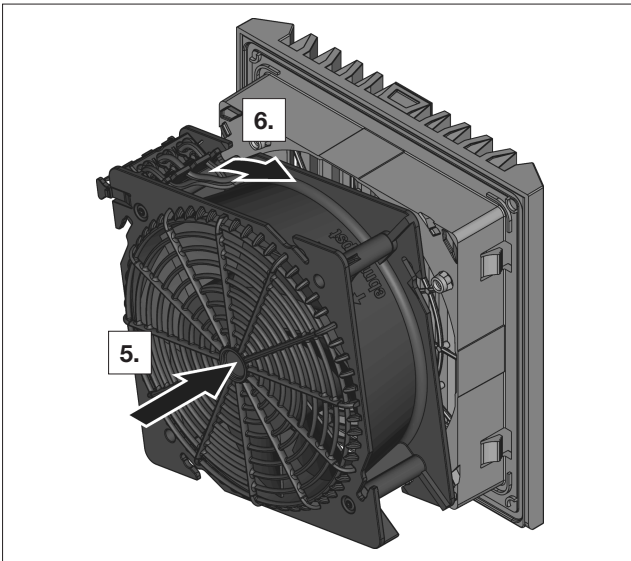

Fig. 9: Locking the bayonet connection
- Place the fan housing back on the filter box (see fig. 9).